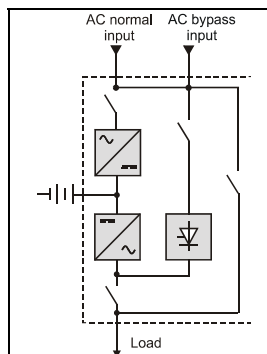
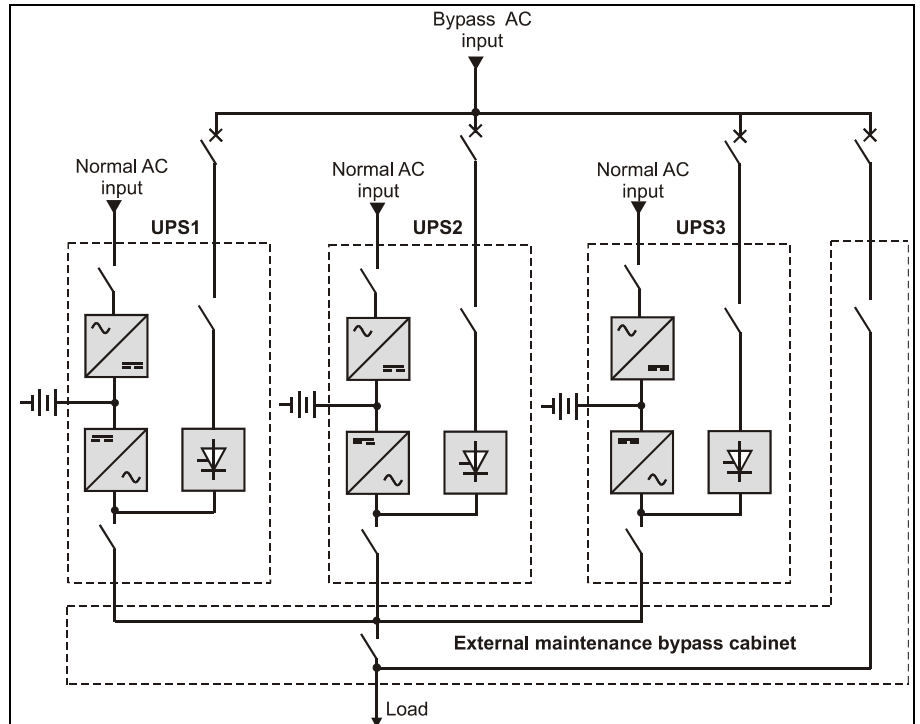

Fig. 2.2. Double-conversion single UPS.
Fig. 2.3. Installation with three integrated parallel UPS units and a common maintenance bypass.
This is the standard double-conversion UPS (see fig. 2.2). Single UPSs can be used to form redundant configurations as shown in diagrams 4 and 11.
- integrated parallel UPS units: each UPS unit includes an automatic bypass and a manual maintenance bypass (fig. 2.2). The manual bypass may be common to the entire system and located in an external cubicle (e.g. fig. 2.3).
This configuration is upgradeable, starting for instance with one integrated parallel UPS unit equipped with an automatic bypass and a manual maintenance bypass. When starting with two units or when expanding to two units or more, a common maintenance bypass is installed in an external enclosure (see fig. 2.3).